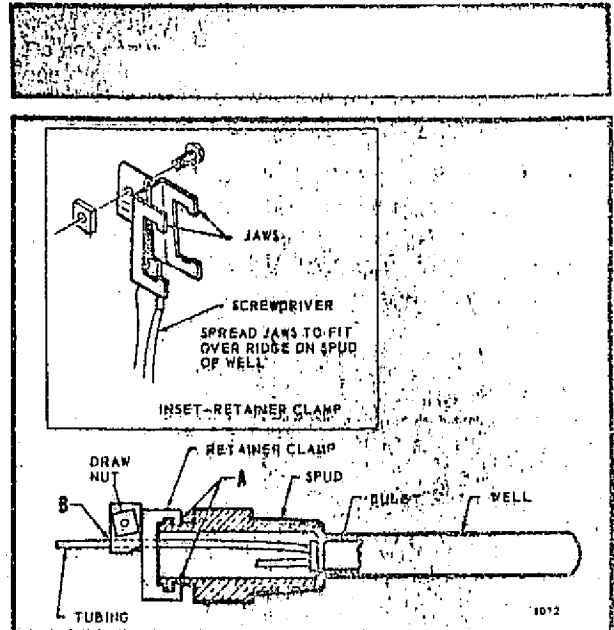
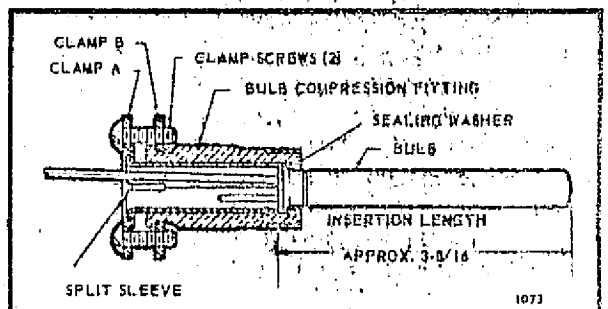
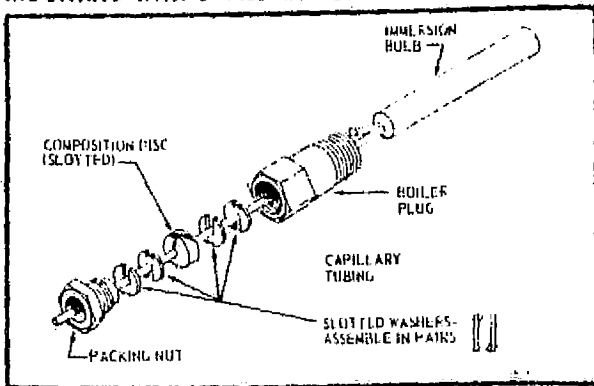

FIG. 5—IMMERSION WELL FITTING.
FIG. 6—BULB COMPRESSION FITTING. USE WITH MODEL L4008A, B, E, J, OR L6008A.
FIG. 7-CAPILLARY COMPRESSION FITTING. USE WITH MODEL L4008C,D,K, OR L6008C,E.
**Bulb Compression Fittings (see Fig. 6) —**
**Capillary Compression Fittings (see Fig. 7) —**
The remote temperature-sensing bulb can either be installed in an immersion well (Fig. 5) that extends into the boiler or tank, or it can be directly immersed in the liquid. For installations not using a well, secure the remote bulb with a bulb compression fitting (Fig. 6), or capillary compression fitting (Fig. 7).
Well, bulb compression fitting or capillary compression fitting must be ordered separately. Sizes available: 1/2 in., 3/4 in. NPT spud. Well, if used, must fit sensing bulb snugly for good thermal response. Insert bulb until it rests against bottom of well, then hold it there while tightening the tubing clamp. (See Fig. 5.)
4. Place composition disc and 4 slotted brass washers on tubing in the order shown in Fig. 7. Turn brass washers so that slots are 180 degrees apart.